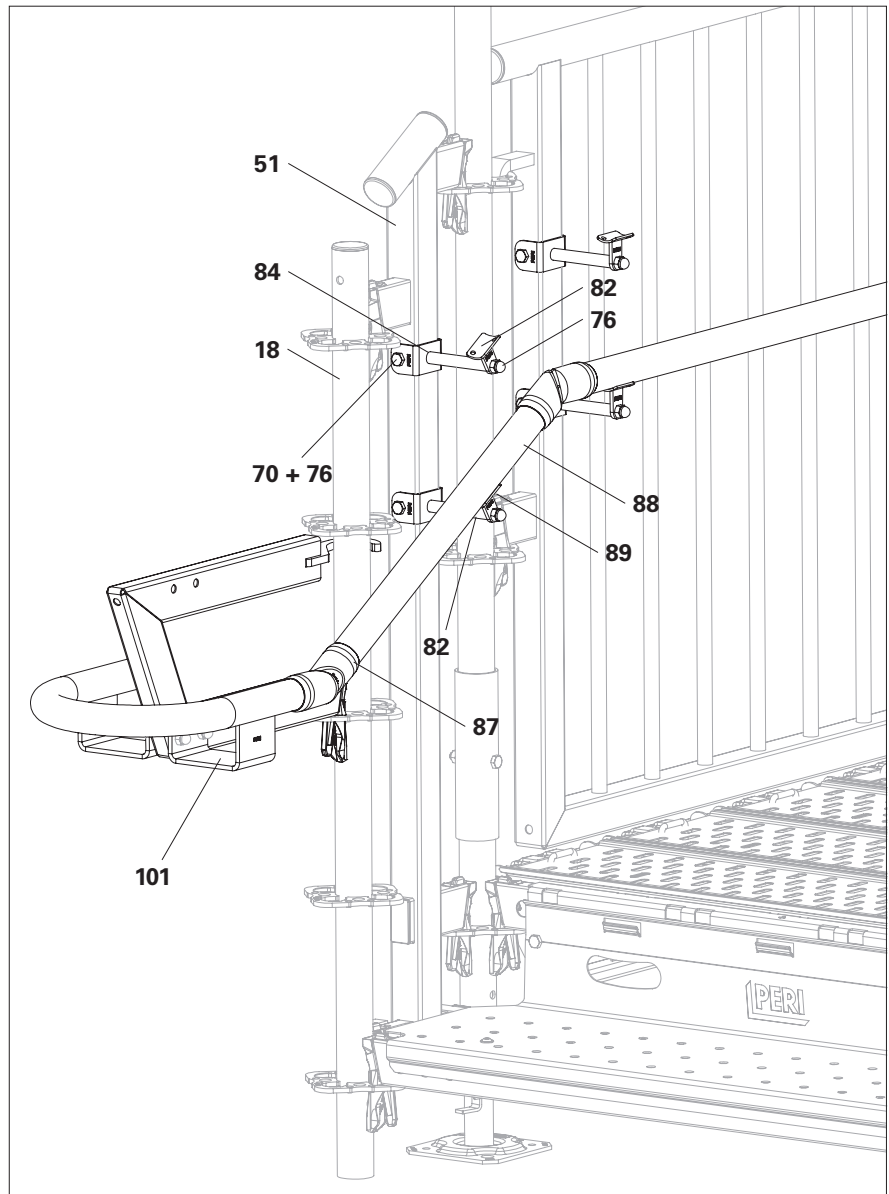

Fig. D2.02
6. Screw the nut (**76**) tightly onto the handrail support (Fig. D2.02)